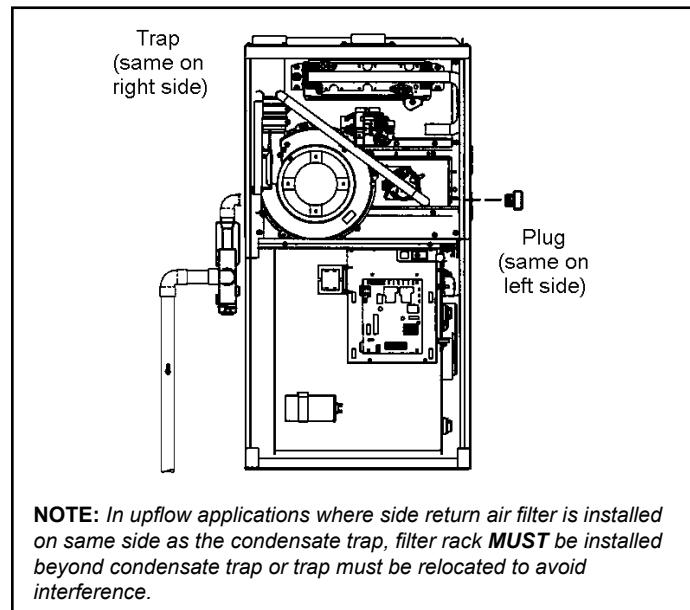
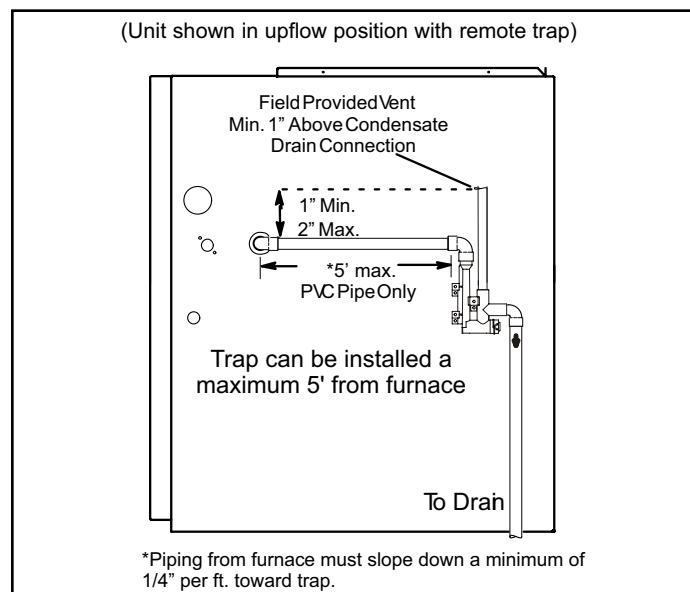
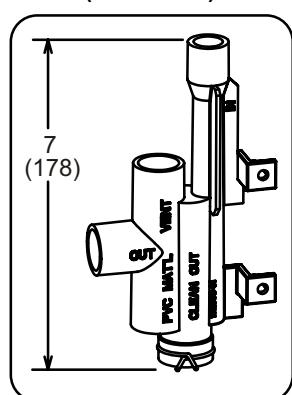

Figure 41. Condensate Trap and Plug Locations (unit shown in upflow position)
Figure 42. Condensate Trap Locations
Figure 50. Trap / Drain Assembly Using 1/2" PVC or 3/4" PVC
This unit is designed for either right- or left-side exit of condensate piping in upflow applications. In horizontal applications, the condensate trap must extend below the unit. An 8" service clearance is required for the condensate trap. Refer to Figure 41 and Figure 42 for condensate trap locations. Figure 49 and Figure 50 show trap assembly using 1/2" PVC or 3/4" PVC.
2. For furnaces with a 1/2" drain connection use a 3/8 allen wrench and remove plug (Figure 41) from the cold end header box at the appropriate location on the side of the unit. Install field-provided 1/2 NPT male fitting into cold end header box. For furnaces with a 3/4" drain connection use a large flat head screw driver or a 1/2" drive socket extension and remove plug. Install provided 3/4 NPT street elbow fitting into cold end header box. Use Teflon tape or appropriate pipe dope.
3. Install the cap over the clean out opening at the base of the trap. Secure with clamp. See Figure 49 and Figure 50.
4. Install drain trap using appropriate PVC fittings, glue all joints. Glue the provided drain trap as shown in Figure 49 and Figure 50. Route the condensate line to an open drain. Condensate line must maintain a 1/4" downward slope from the furnace to the drain.